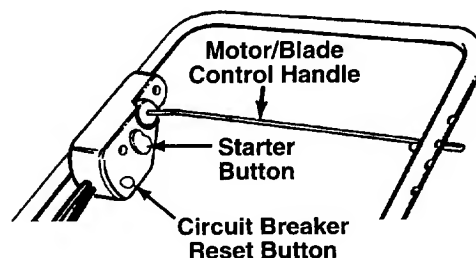

FIGURE 5.
**IMPORTANT: YOUR MOWER IS EQUIPPED WITH A CIRCUIT BREAKER, LOCATED ON THE MOTOR/BLADE CONTROL HOUSING. SEE FIGURE 5. IF THE CIRCUIT BREAKER TRIPS, RESET AS INSTRUCTED IN THE MAINTENANCE SECTION.**